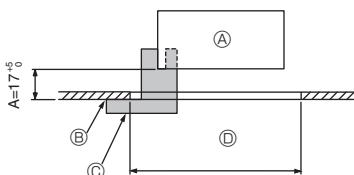

Fig. 9-2
① Grille	1	950 × 950 (mm)
② Installation gauge	1	(Divided into 4 parts)
③ Screw (4 × 16)	1	For PLP-6EAE, PLP-6EALE, PLP-6EALME2
④ i-see Sensor corner panel	1	For PLP-6EAE, PLP-6EALE, PLP-6EALME2
⑤ Wireless remote controller	1	For PLP-6EALM2, PLP-6EALME2
⑥ Remote controller holder	1	Included when equipped with the wireless remote controller.*
⑦ LR6 AA batteries	2	Included when equipped with the wireless remote controller.*
⑧ 3.5 × 16 tapping screws	2	Included when equipped with the wireless remote controller.*
9.2. Preparing to attach the grille (Fig. 9-2)
- With the gauge ② supplied with this kit, adjust and check the positioning of the main unit relative to the ceiling surface. If the main unit is not properly positioned relative to the ceiling surface, it may allow air leaks or cause condensation to collect.